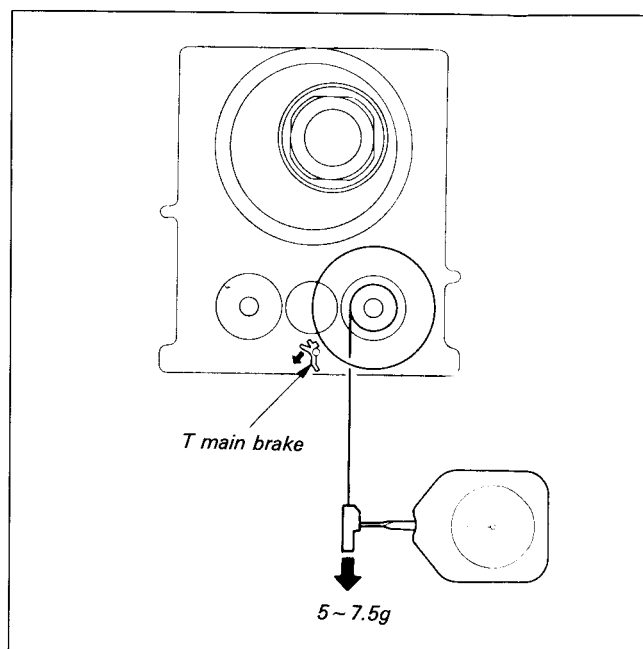

Fig. 7-60.
2. T Soft Brake Torque (See Fig. 7-60.)